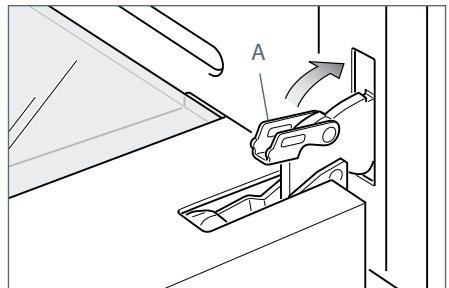

Fig.62d
- 4 Unlock the oven door by opening it completely and closing the lever "A" on the left and right hinges (Fig. 62d).